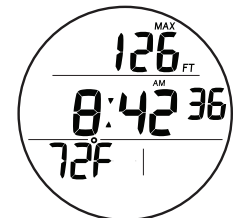

Fig. 94 - NO DECO ALT 1
**No Deco Alt 1**, information includes (Fig. 94):